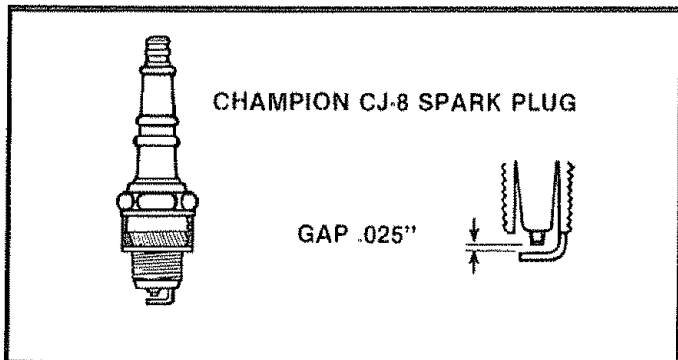

Figure 45
- Set the gap between the electrodes to .025 using a wire or flat gauge. Figure 45.